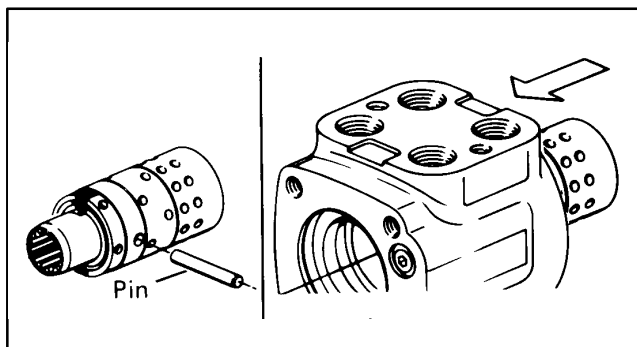

Figure 40
10. Position the spool and sleeve assembly so that the splined end of the spool enters the 14-hole end of housing first, see Fig. 40.